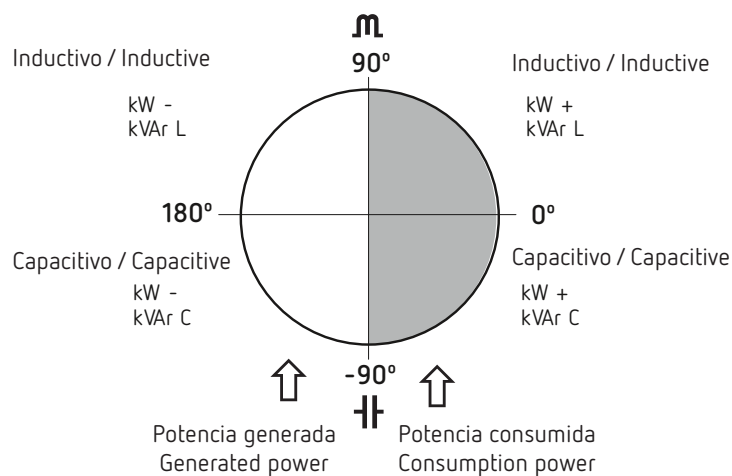

Figure 5: Signs in the measurements of the 4 quadrants.
- **Control in four quadrants** (see **Figure 5**), with indication of the stages connected, $\cos \varphi$, power sign and sign of the reactive power (inductive or capacitive).